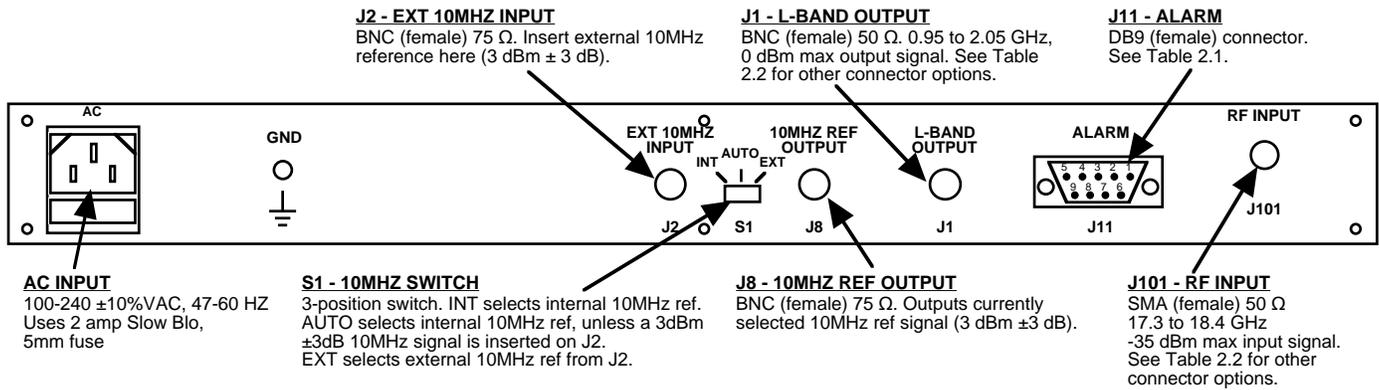

FIGURE 2.1 2116-184 Rear Panel I/O's
Figure 2.1 shows the input and output connectors on the rear panel.
1. Connect a -55 dBm to -35 dBm signal to RF INPUT, J101 (Figure 2.1).
5. Select either INT (for internal 10MHz ref), AUTO (for internal 10MHz ref UNLESS an external 10MHz, 3 dBm signal is connected to J2), or EXT (for external 10MHz, 3 dBm ref that is inserted at J2) on rear panel switch S1 (Figure 2.1).
7. Check that a 10MHz, 3 dBm \pm 3 dB signal is present at the 10MHz REF OUTPUT (J8) (Figure 2.1).